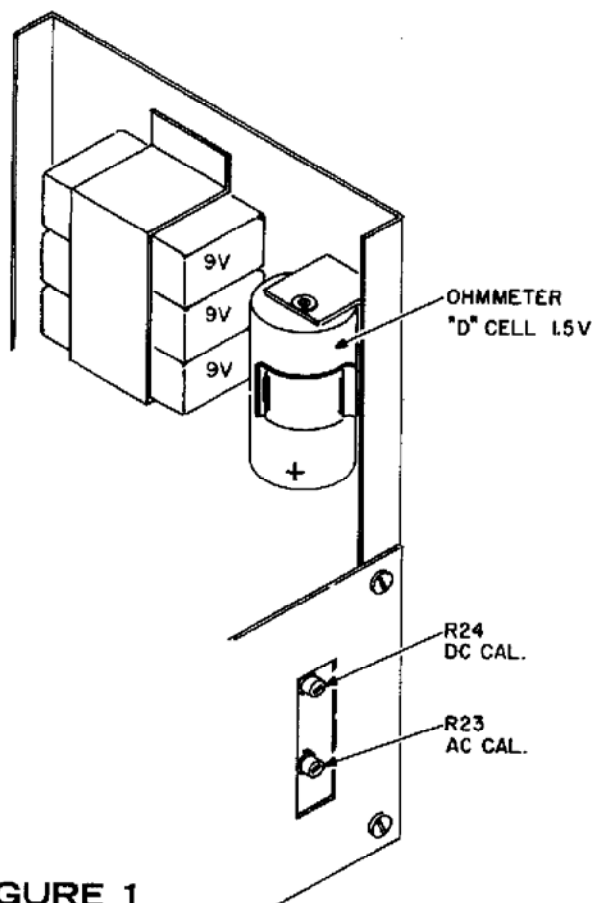

FIGURE 1
5. With the a.c. source operational, check that the Model 240 indicates the correct voltage. If not, adjust R23 (the lower of the two potentiometers accessible through removable hole plugs on the right-hand side of the instrument), until the meter indicates the correct value. See Fig. 1.
2. The 1-1/2 volt ohmmeter battery is mounted at the right side of the rear subchassis in its own holder. The battery should be replaced with a comparable cell, observing the polarity (positive side down). See Fig. 1.
4. A switch on the rear panel determines whether the Model 240 is operated on the power line or on the internal batteries. Place this switch in the appropriate position. (See Fig. 1)